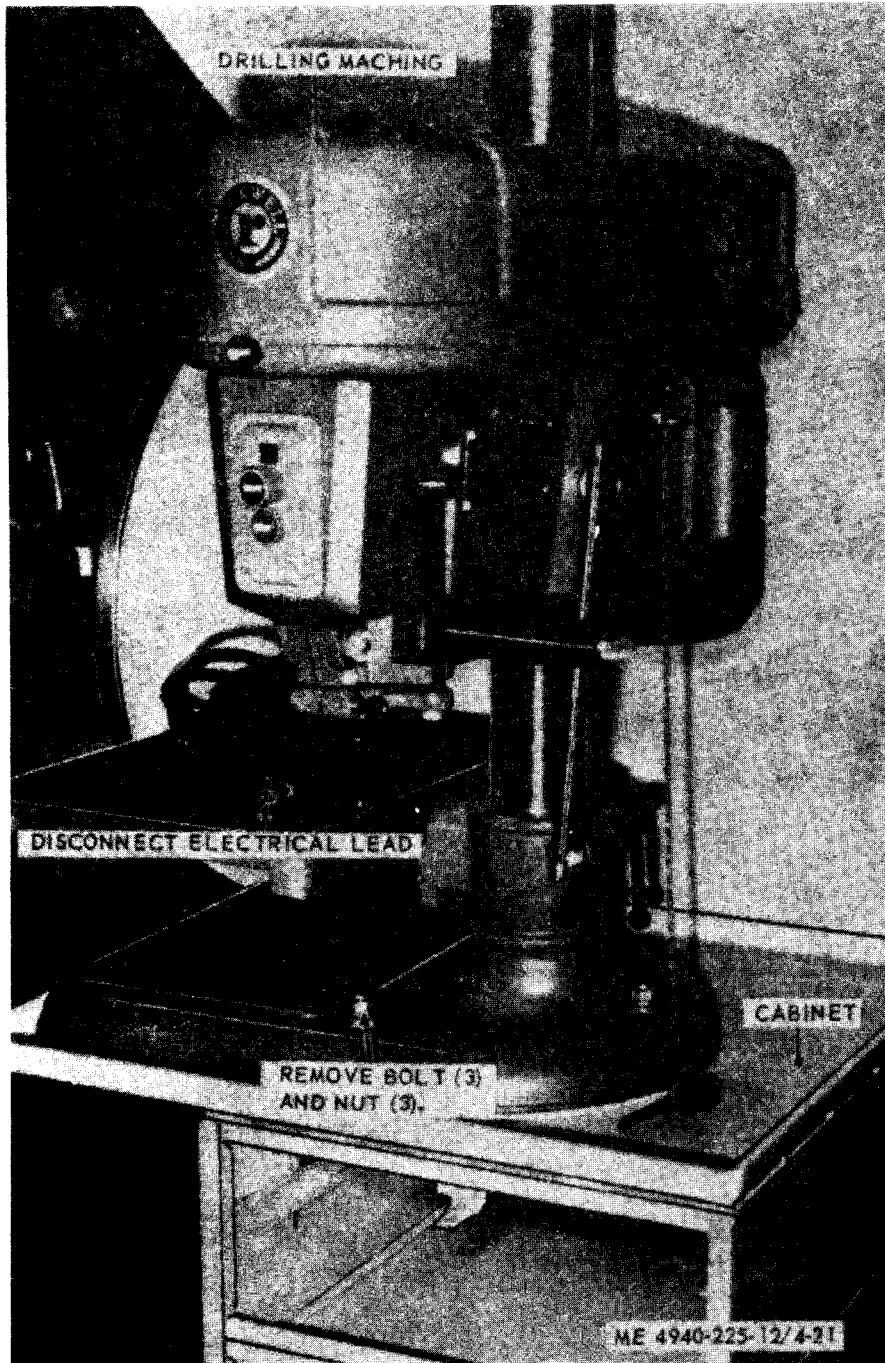

Figure 4-21. Drilling machine, removal and installation.
a. *Removal.* Remove the drilling machine as illustrated in figure 4-21.
b. *Installation.* Install the drilling machine as illustrated in figure 4-21.